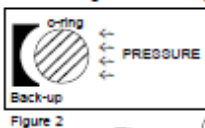
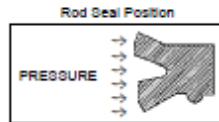

Figure 2
Figure 1
2. Clamp rod end mount (6) in vise and fully extend cylinder. If there is no mount. Protect rod threads while clamping.
3. Remove the 4 tie bolt nuts (7) on gland end and un-thread the bolts from the base end.
4. Remove the base (5) and slip the tube off of the gland (3) if necessary, gently tap the gland and base with a rubber Mallet to loosen.
5. Remove piston nut (13) and slip piston (4) and gland off rod (1) drive piston off with gland. Remove gland from the piston end of the rod.
9. Install new seals (15) (16) (18) & (19) in gland taking care to position the I. D. U-cup (15) toward the pressure as shown in Figure 1.
10. Install piston seal & energizer (17) and internal o-ring (20) into piston.
11. Install o-ring (18) and back-up (19) on the base. See Figure 2 for o-ring/back-up orientation.
13. Torque piston nut (13) according to Table #1. Lube gland & piston seals.